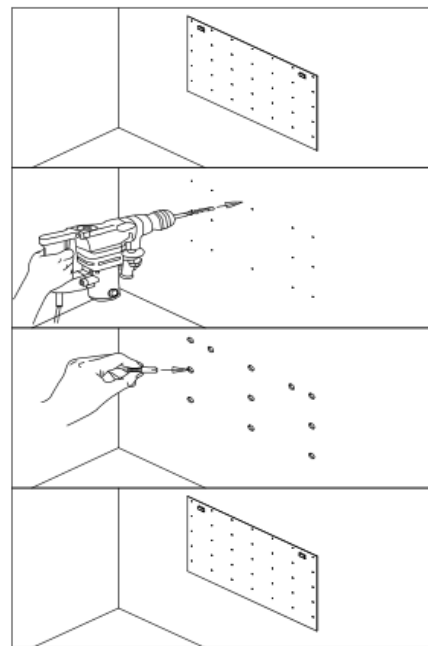

Fig.3
5. Fasten the hanger to the wall. See (Figure 3).